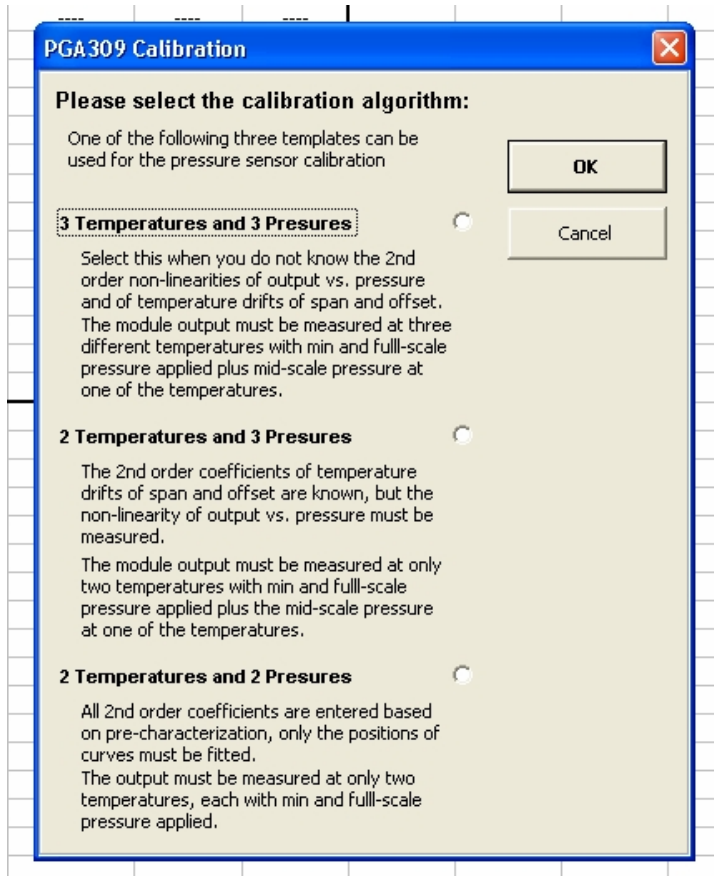

Figure 39: Select Calibration Algorithm Dialog
- D) Click "Prepare Calibration Sheet". The dialog box in Figure 39 will appear. Select the appropriate algorithm. The script will copy the right template to the "Sensor Curvefit" Worksheet and open the next page.